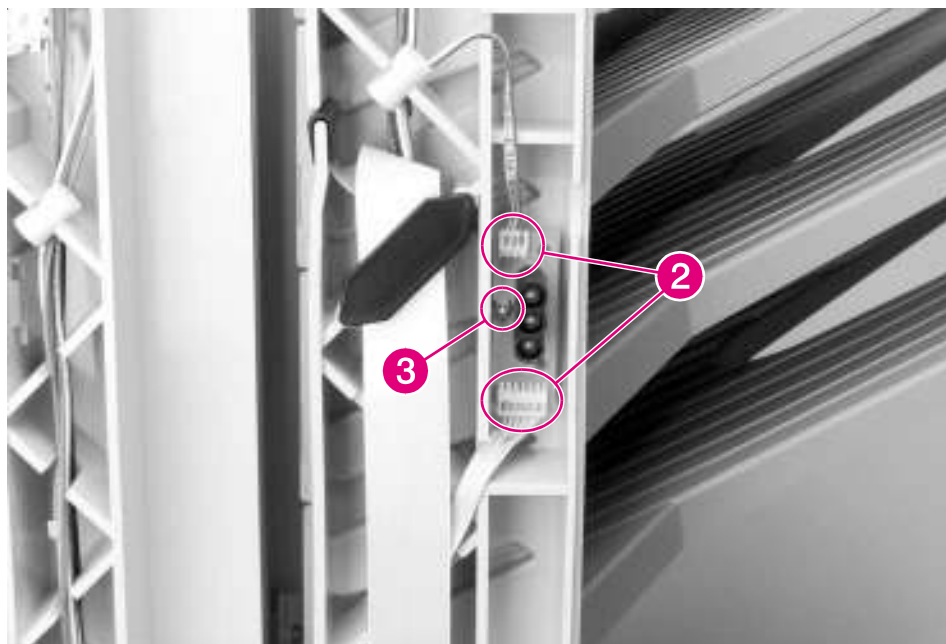

Figure 6-175 8-bin Mailbox Diagnostic LED PCA (2 of 2)
- 3** Disconnect the 2 flat cables from the Diagnostic LED PCA (Figure 6-175, callout 2).